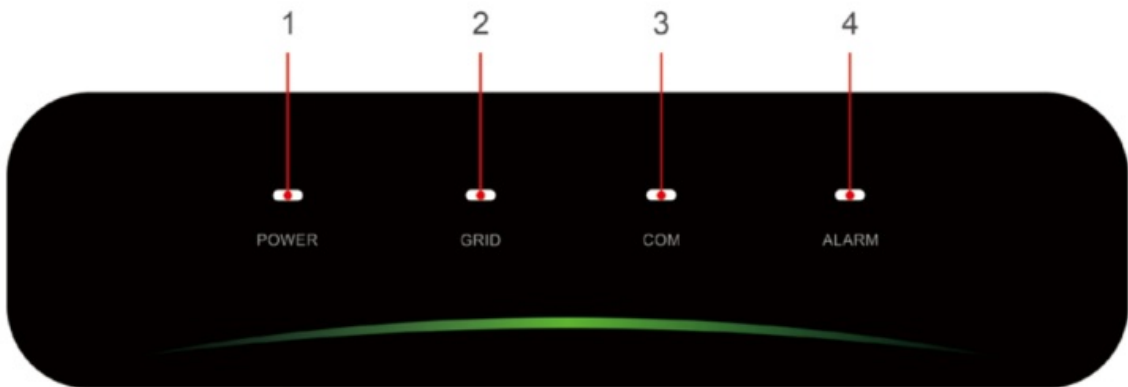

Figure2
Step 4: Confirm the indicator light status of the inverter. The indicator light status in Figure 2 is normal.